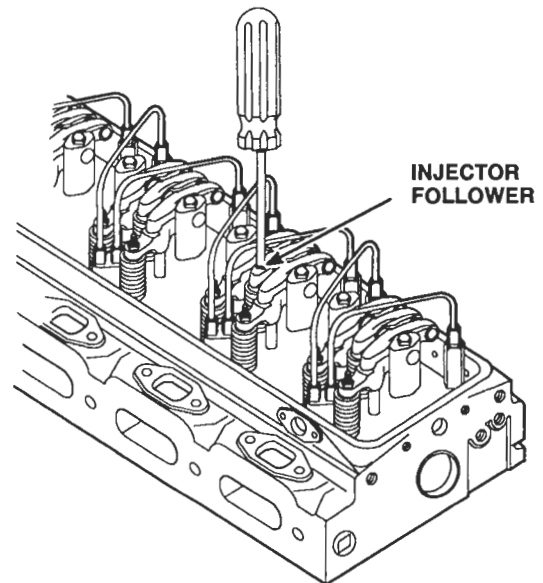

Figure 1. Locating a Misfiring Cylinder
4. Start the engine. Then hold an injector follower down with a screwdriver to prevent operation of the injector (Figure 1.) If the cylinder has been misfiring, there will be no noticeable difference in the sound and operation of the engine. If the cylinder has been firing properly, there will be a noticeable difference in the sound and operation when the injector follower is held down. This is similar to short-circuiting a spark plug in a gasoline engine.